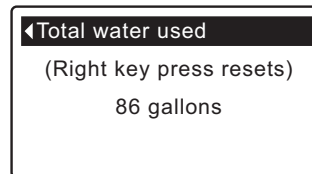

FIG. 61
6. The **Total water used** screen (See Figure 61) shows the volume of water used since it was last reset (it works like the trip odometer in a car). To reset the value to 0, press the RIGHT (▶) button while this screen is displayed.